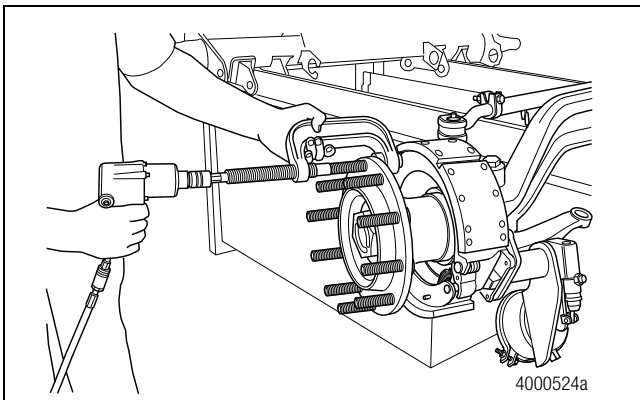

Figure 6.42
- Use a 1/2-inch (12.7 mm) drive impact wrench and a ball joint removal kit to remove the studs. Figure 6.42.